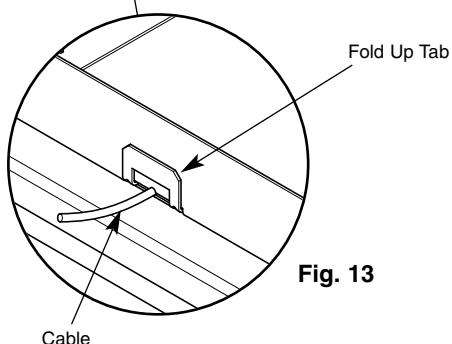

Fig. 13
8. With the tab pulled through the slot in the flange of the fire box, pull tight and bend the tab upwards to secure (Fig. 13).
9. Cut off the remaining cable flush with the front of the fire box (Fig. 13).